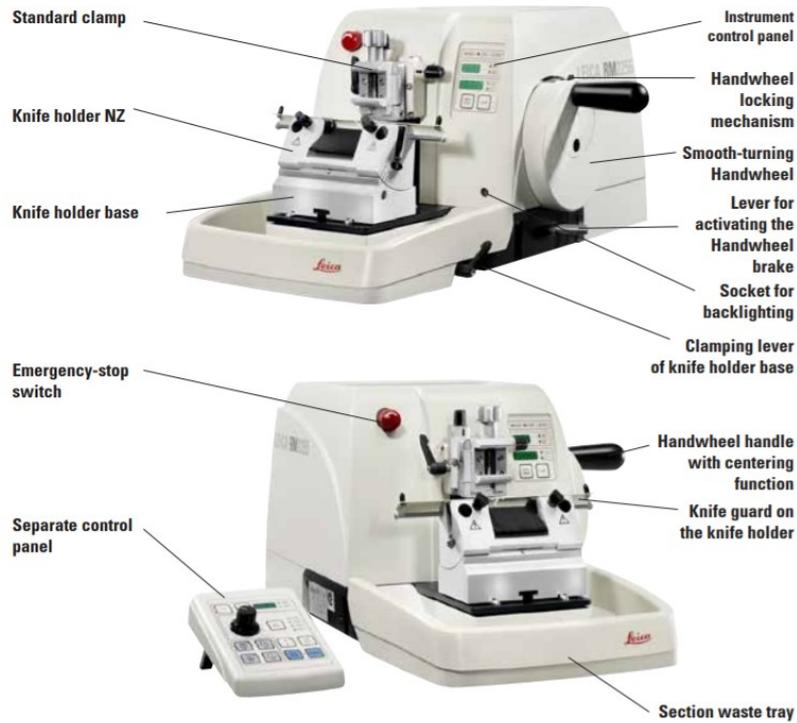

Figure 2 Overview of RM2255 fully automated rotary microtome
4.2. Instrument specification (Figure 2)